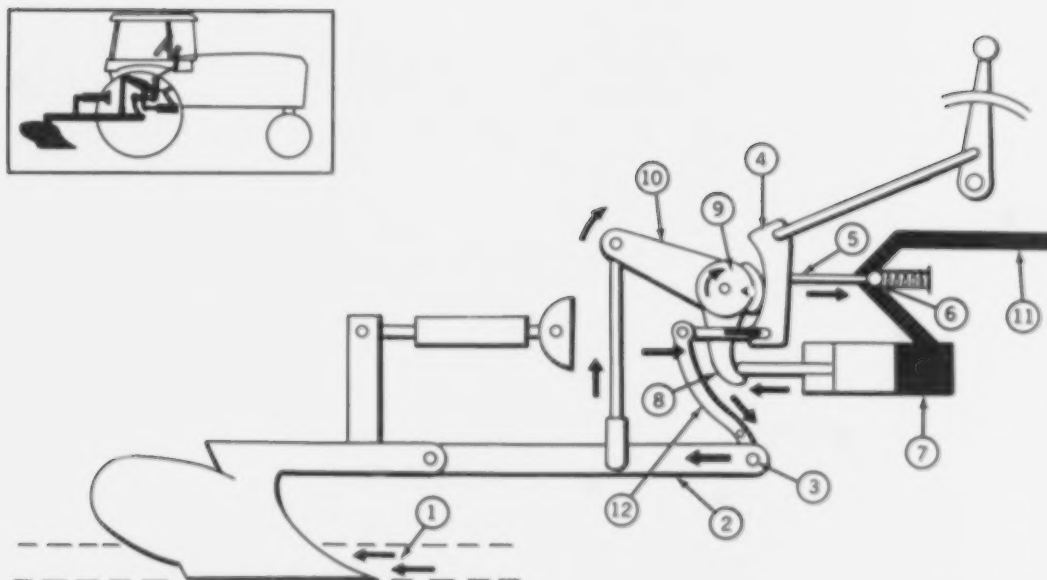

Fig. 5—Automatic Load Sensing Raises The Plow
In Fig. 5, the plow hits hard ground (1) and load control shaft (3) is pulled rearward by draft links (2). As a result, load control arm (12) is pivoted against cam follower (4). The cam follower pushes on rod (5) which opens valve (6) and admits pressure oil to cylinder (7). The cylinder piston pushes against the arm (8), rotating rockshaft (9) and lift arm (10) upward. The lift arm is attached to the plow and so raises the plow slightly to help it pass through the hard ground.